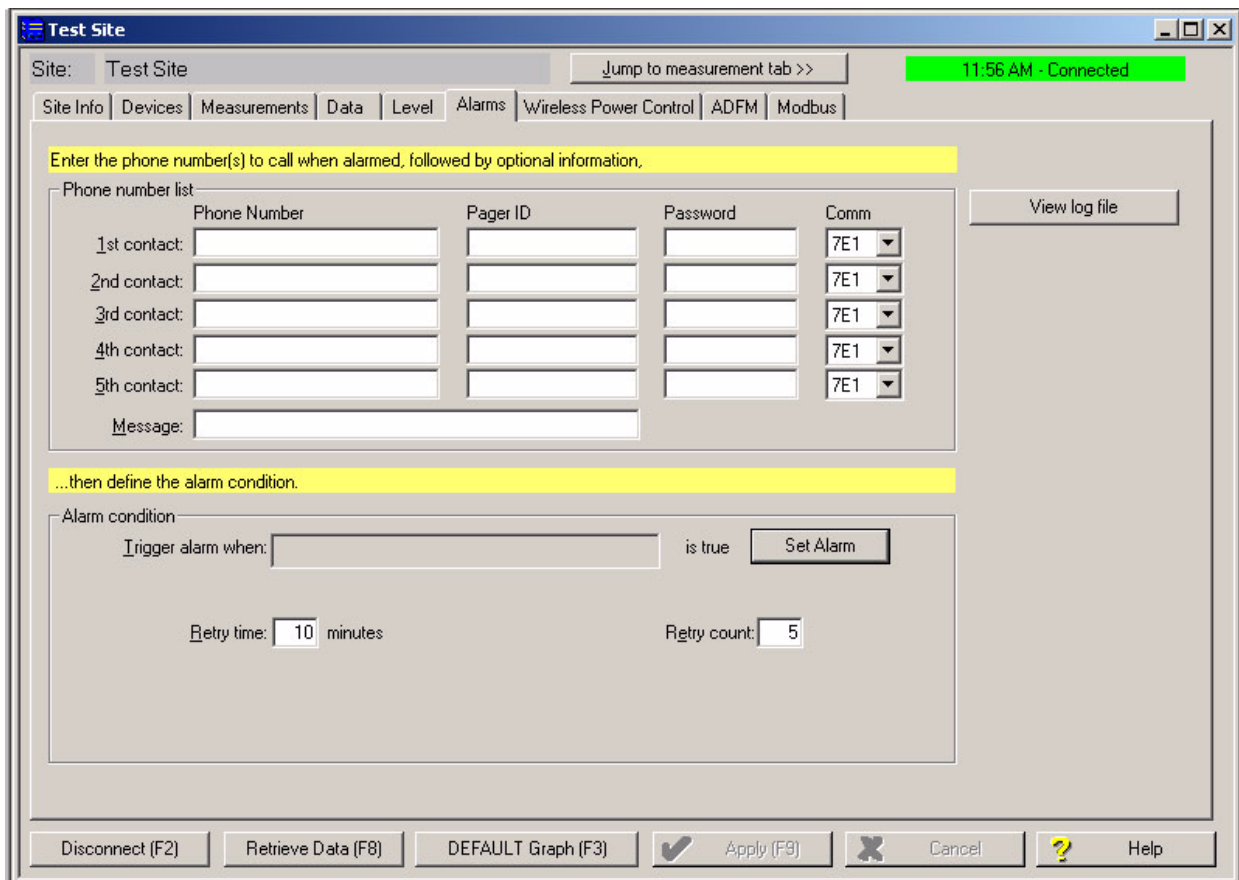

Figure 2-13 Dialout phone numbers and alarm conditions
1. Make sure you are connected to the site, and select the Alarms tab (Figure 2-13).